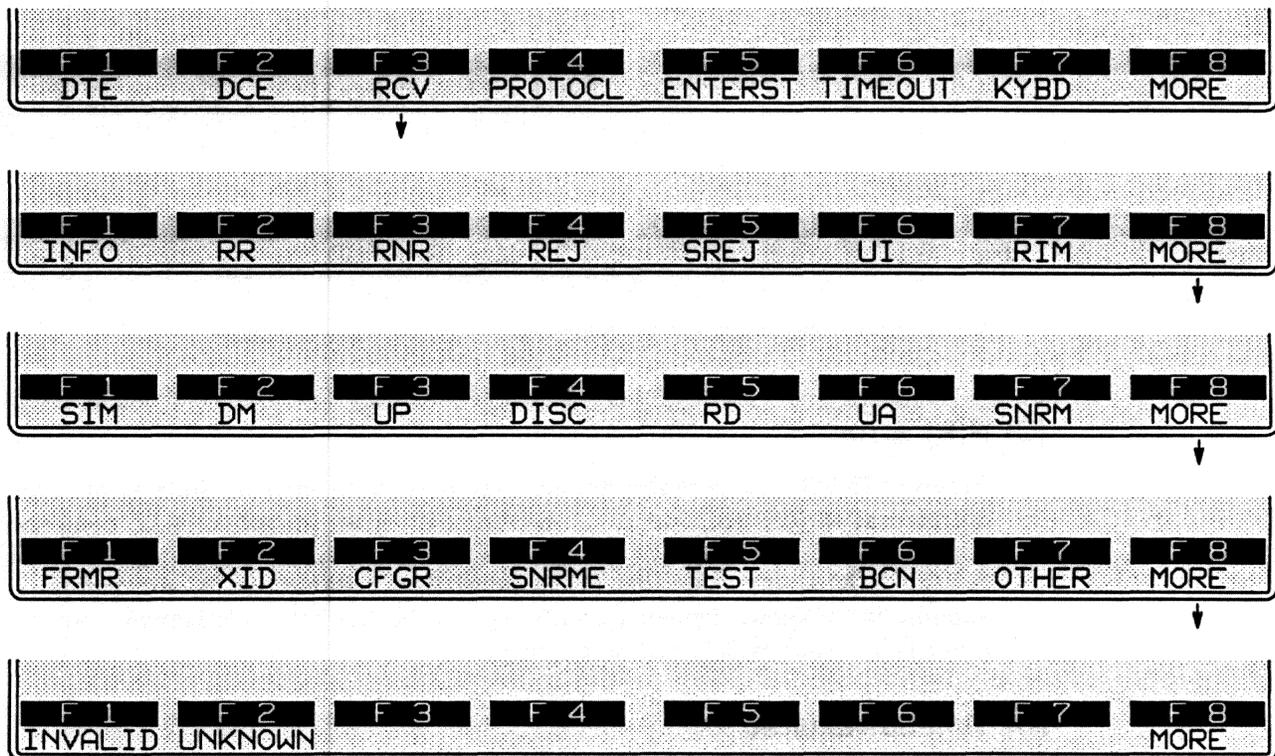

Figure 35-14 *INVALID* and *UNKNOWN* are frame types for *RCV* conditions.
3. *Type invalid or unknown.* RCV conditions can detect frames that are invalid “types”—the control field is missing, for example, or the I-field is missing in an I-frame. The Protocol Spreadsheet entry for this condition is RCV INVALID, and the softkey sequence is illustrated in Figure 35-14.
A frame may be valid in all respects but have a control field that indicates a nonstandard frame type. Such a frame may be matched by a RCV UNKNOWN condition (Figure 35-14).